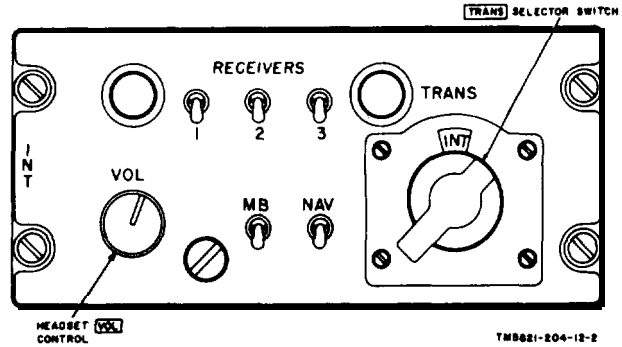
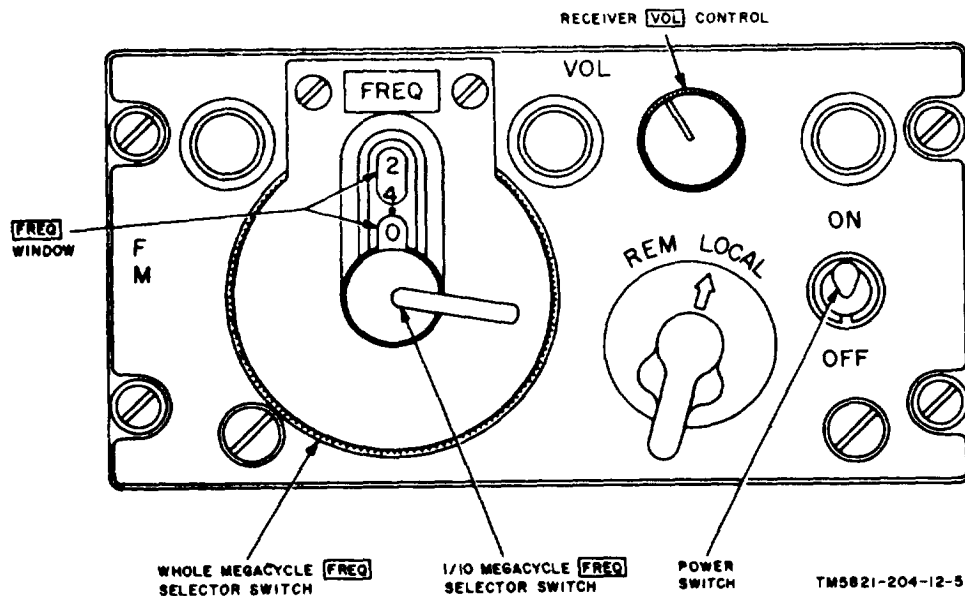

Figure 11. INT Signal distribution panel, front view
Figure 12. FM control panel, front view.
17. INT Signal Distribution Panel (fig. 11)
(fig. 12)
RECEIVERS switches (fig. 11)	All in down (off) positions.
Headset and receiver VOL controls (figs. 11 and 12).	Full counter-clockwise.
TRANS selector switch (fig. 11)	INT.
Power ON-OFF switch (fig. 12)	OFF.
REM-LOCAL switch (fig. 12)	LOCAL.
1/10 and whole megacycle FREQ selector switches (fig. 12).	Rotate for desired frequency.
- (1) On the operator's INT signal distribution panel (fig. 11), place the RECEIVERS 1 switch at up.
- (2) Turn the VOL control on the INT signal distribution panel fully clockwise for maximum volume.
- (3) On the FM control panel (fig. 12), place the power switch at ON. Allow approximately 2 minutes for warmup. Cycling (automatic frequency selection) may take place in the fm receiver-transmitter. This will be indicated by a 400-cycle-per-second signal heard in the headsets. The tone lasts approximately 6 seconds,
- (4) Be sure that the **REM-LOCAL** switch is at **LOCAL**.
- (5) Select the required frequency with the 1/10 and whole megacycle **FREQ** selector switches. Set the whole-megacycle **FREQ** selector switch (outer perimeter knob of the **FREQ** control) until the number appearing corresponds to the whole-megacycle number of the operating frequency. Set the inner 1/10 megacycle **FREQ** selector switch to the exact 1/10 megacycle.
- (6) Turn the receiver **VOL** control on the FM control panel for maximum volume, and reduce the volume to a suitable listening level, if necessary, with the headset **VOL** control on the INT signal distribution panel (fig. 11).
- (3) On the INT signal distribution panel (fig. 11) of the operator desiring to transmit, turn the **TRANS** selector switch so that 1 appears in the window just above the switch.
- (1) Set the power switch on the FM control panel (fig. 12) to OFF.
- (2) On the INT signal distribution panel (fig. 11), place the **RECEIVERS 1** switch to its down (off) position and the **TRANS** selector switch in the INT position.
- (3) If the entire communication facility is to be shut down completely, proceed as follows: